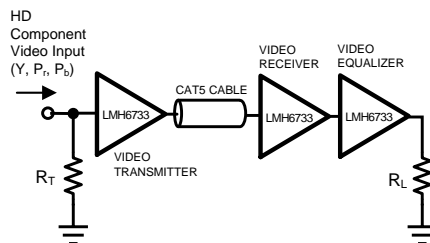

Figure 39. CAT5 High Definition Video Transmission
The LMH6733 can be used to send component 1080i High Definition (HD) video over CAT5 twisted-pairs. As shown Figure 39 , the LMH6733 can be utilized to perform all three video transmitter, video receiver, and equalization circuitry. The equalization circuitry enhances the video signal to accomodate for the CAT5 attenuation over various cable lengths. Refer to application note AN-1822 for more details regarding this application.